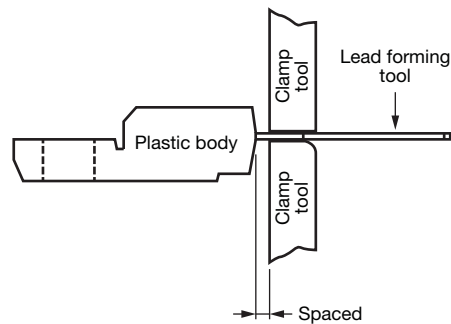

Fig. 3
2. When clamping the leads, they must be clamped between the device body and the bending point (Fig. 3)